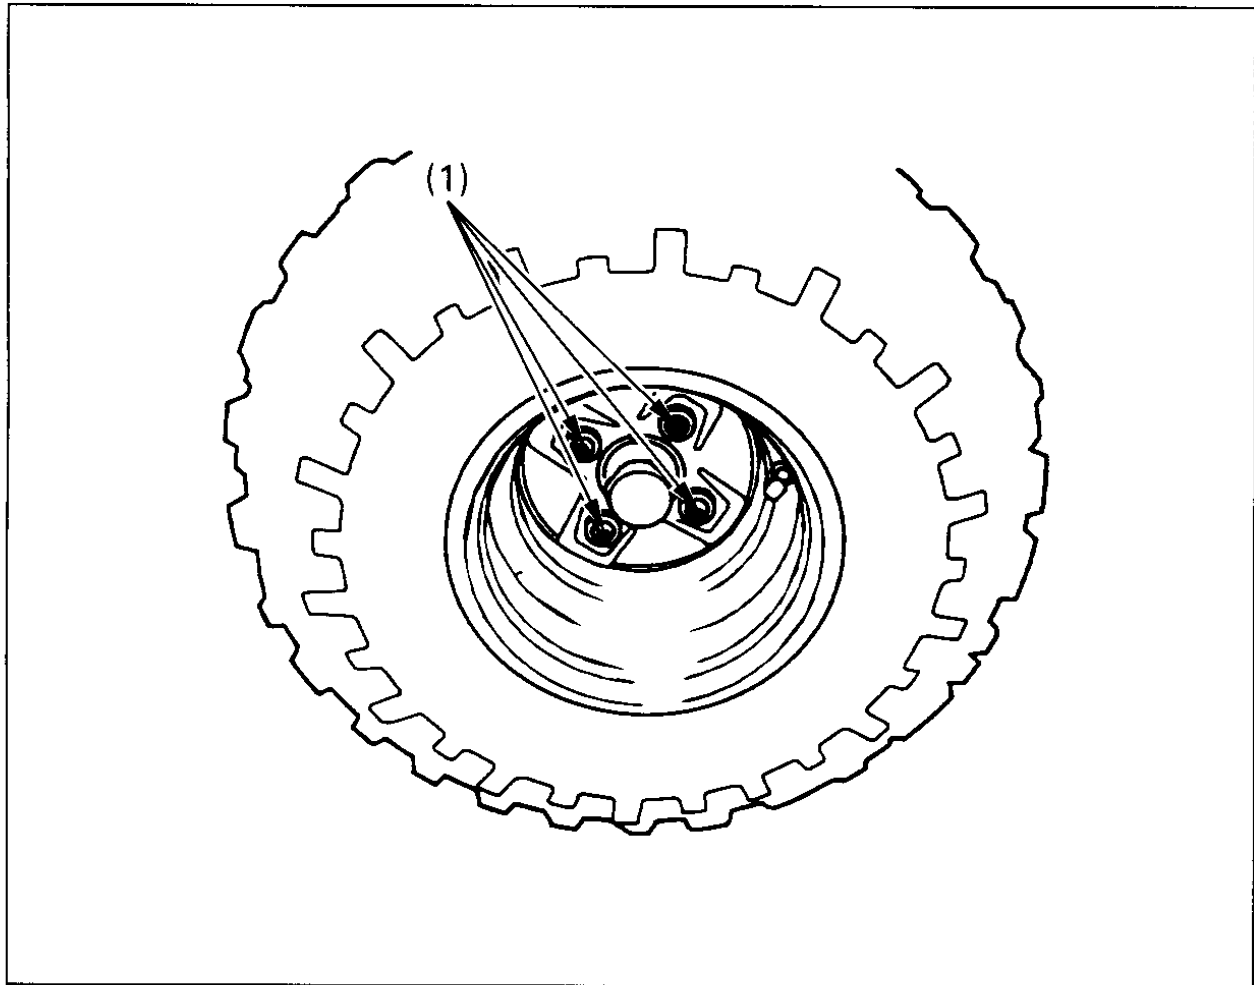

Fig. 4-26
2. Loosen the wheel nuts (Fig. 4-26) with a 17 mm socket wrench.